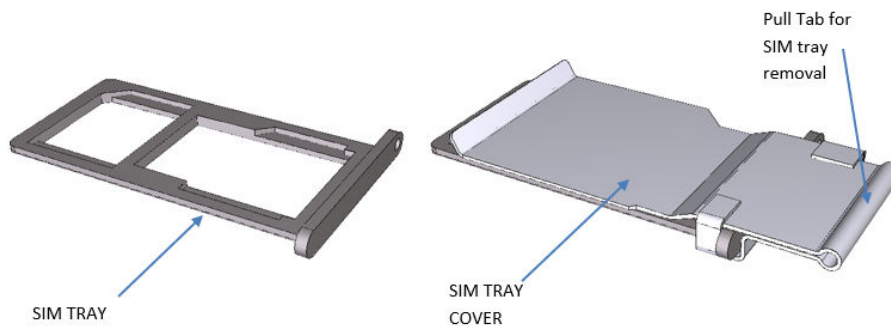
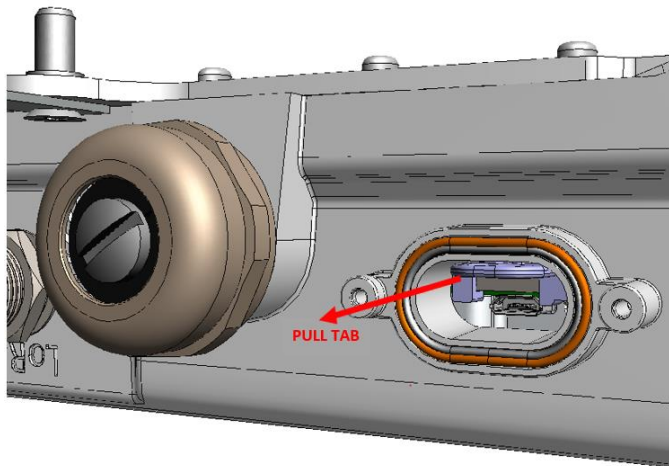

Figure 6: SIM Tray Cover
Figure 7: SIM Tray Removal
6. Supplied pole mounting accessories (shown in Figure 6) for pole mounting or appropriate screws or bolts (four sized M6) with any required anchors according to the wall construction for wall mounting.
The SIM tray can be removed by pulling on the SIM tray cover’s pull tab (refer to Figure 6 and Figure 7).